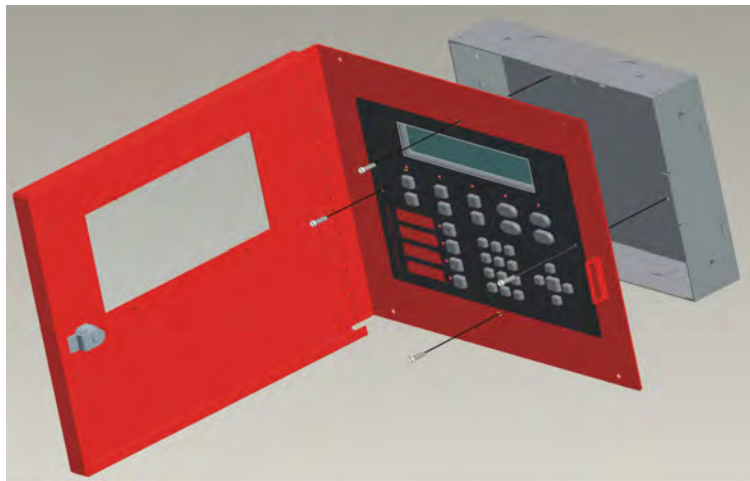

Figure 4.29 Attaching Annunciator / Door Assembly to Backbox
4. Attach the annunciator and door assembly to the back box as shown in Figure 4.29 using the supplied screws.